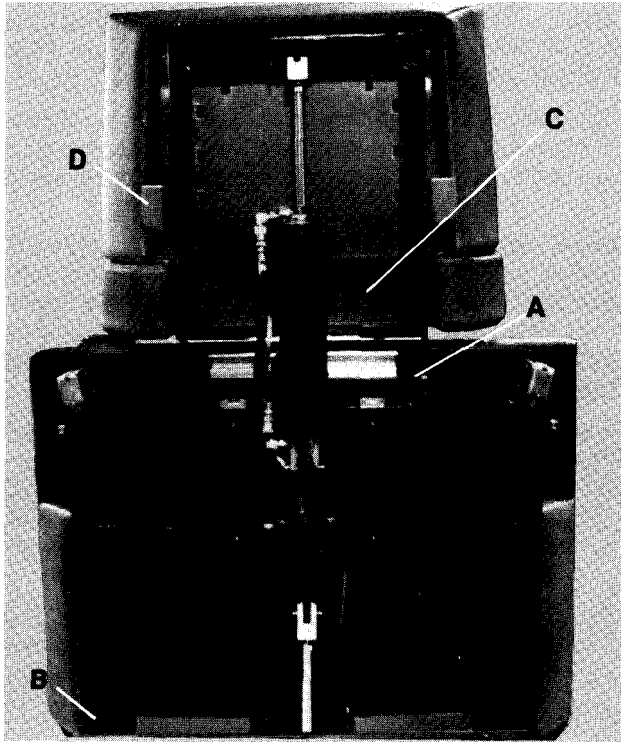

Fig. 6
- 3) Remove the (2) screws located at the front edge of the seat section. (Item A, Fig. 6) It is easiest to do this with the leg extension raised up.
- 4) Remove the (2) screws located under the seat section, near the hinge, by inserting a screwdriver through access hole, item B, Fig. 6.
- 2) Align front holes under seat section, Item A, Fig. 6 and install (2) # 10-24 x 5/8" screws. It is easiest to do this with leg extension raised up.
- 3) With a magnetic screwdriver, install (2) # 10-24 x 5/8" screws through the access holes. item B, Fig. 6.
7/8" screws under the legrest frame, Item C, Fig. 6.
- 2) Align holes and install (2) # 10-24 x 7/8" screws under the legrest frame, Item C, Fig. 6.
- 1) Remove footrest from table by lifting lever, Item D., Fig. 6 and pulling footrest toward you.
- 1) When placing the footrest section in the position shown in Fig. 6, the metal guides should be inserted into the slots until you hear the mechanical locking device engage.